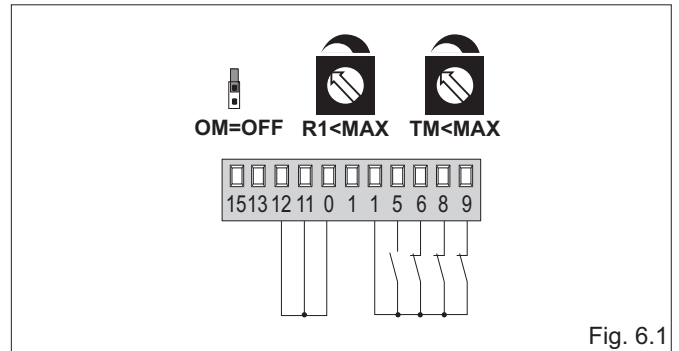

Fig. 6.1
- (Fig. 6.1) Door wing stops against mechanical end stops and in the event of obstacle detection.